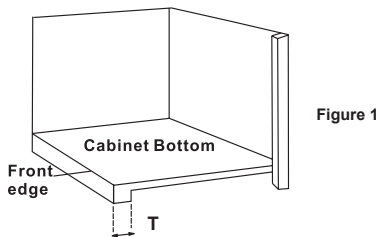

Figure 1
- a) Measure the thickness of the cabinet overhang (see Figure 1).